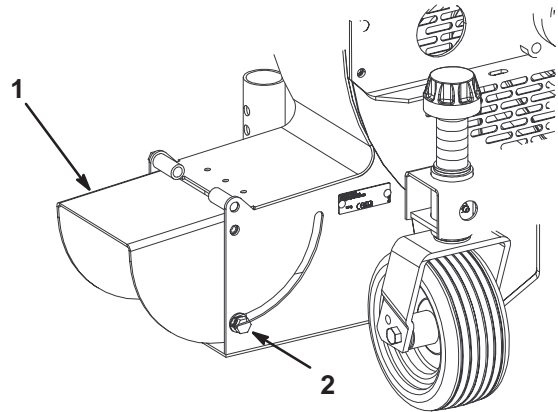

Figure 7
1. Loosen the discharge opening deflector mounting screws (Fig. 7).